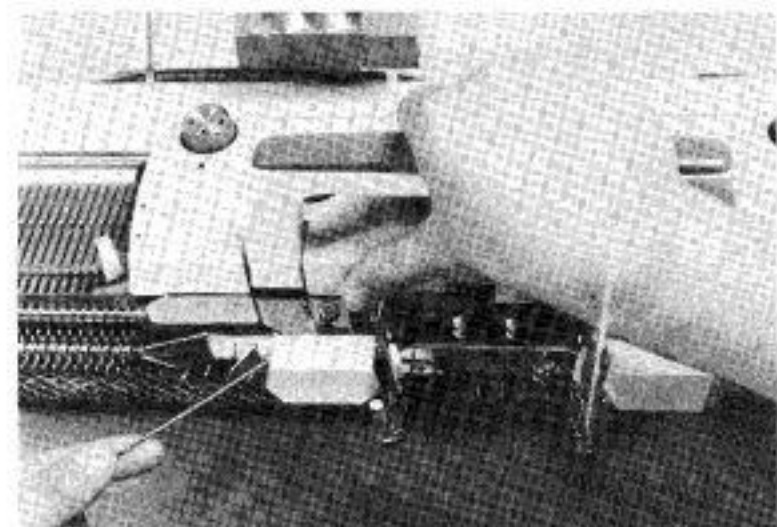

Fig. 136
- 2nd row** Carriage on left, turn right hand Pattern Control Knob to 'S' and move carriage back to right. Turn right Pattern Control Knob to 'A'. Push back two needles at the carriage end opposite Nos. 2 and 4 on the N.S.G.S. into Position (B). Form a loop in the end of the contrasting colour wool and hang this loop in hook of the end needle pushed back into position (B) nearest the carriage. * Pull out of action the main feeder and place the contrasting colour wool in the leading (left hand) Weaving Feeder as shown in Fig. 136. Holding in the leading Needle Forwarding Lever, move the carriage across to the left and, at the same time, hold the wool taut until the right hand end needle is just under the leading Weaving Feeder. (Fig. 136) Allowing the wool to run freely through your fingers, continue to knit this row.